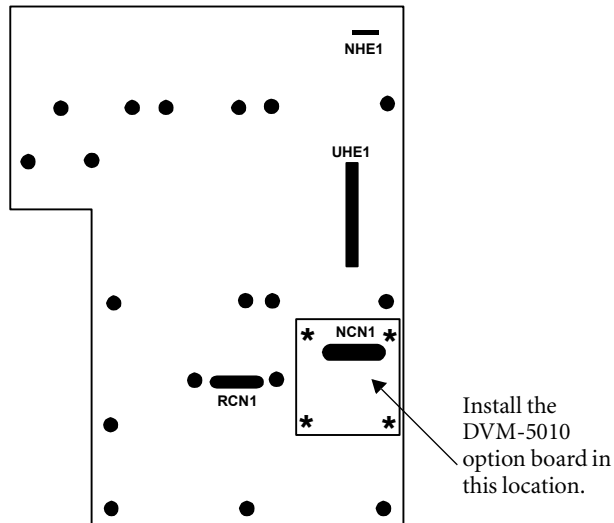
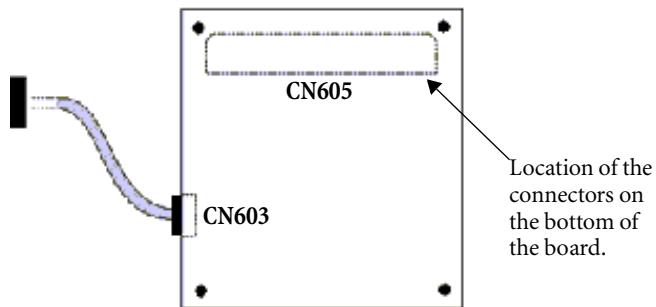
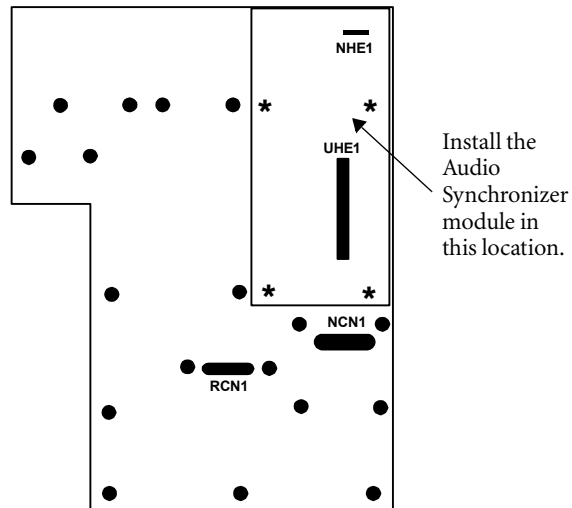
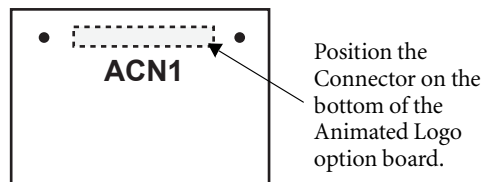

Figure C-1. Top View of DPS-575 Main Board
Figure C-2. Top View of DVM 5010 I/O Option Board
Figure C-3. Top View of DPS-575 Main Board
Figure C-6. Top View of Animated Logo Option Board
4. Connect one end of the supplied cable (Part #774-140) to the NHE1 connector on the main board (*see* Figure C-1 above for the location of this connector).
5. Inspect the connectors on the DV I/O option and main board to ensure that all pins are straight, and then align the CN605 connector on the bottom of the DVM-5010 I/O option board with connector NCN1 on the main board (*see* Figure C-1 and Figure C-2 for
8. Inspect the connectors on the Audio Synchronizer module and main board to ensure that all pins are straight. With the shield sitting on the standoffs, gently press connector J1 on the Audio Synchronizer module onto the UHE1 connector on the main board. (See Figure C-1 on page 204 and Figure C-3 on page 206 for positioning). Be sure to apply pressure evenly across the connector to prevent the pins from bending or breaking.
3. Remove the four screws that secure the Audio Synchronizer module. See Figure C-3 in the “Installation of Audio Synchronizer Module (AS-575)” on page 206 to locate the correct screws.
3. Align the ACN1 connector on the bottom of the Animated Logo option board with connector RCN1 on the main board (*see* Figure C-1 on page 204 and Figure C-6 for positioning).